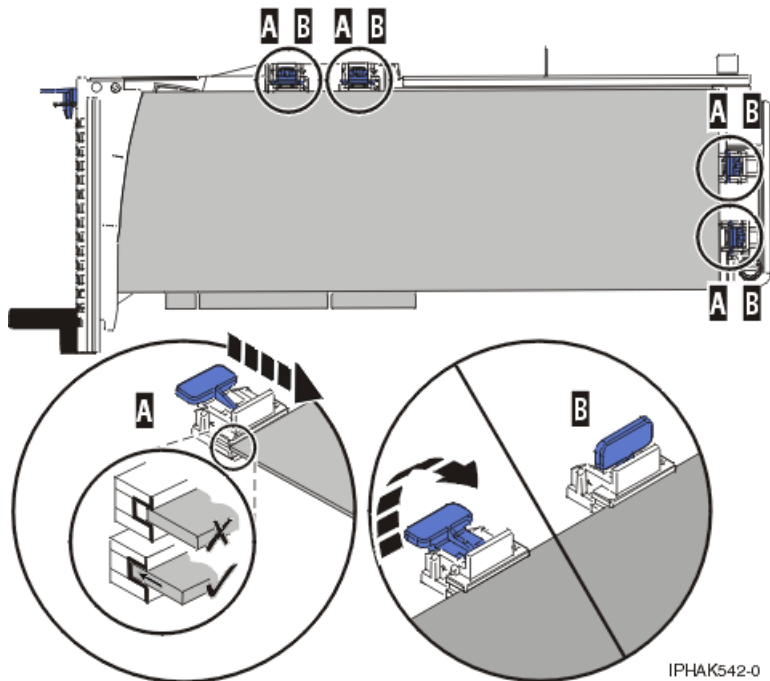

Figure 100. Long adapter in the PCI adapter cassette with the supports and stabilizer in place
- 3) Place and lock the retainers (**B**). See Figure 100.